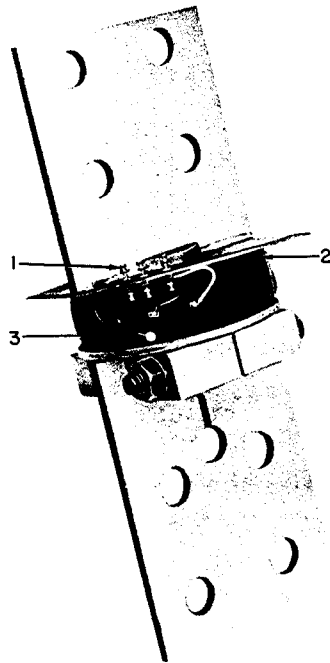

Fig. 38. (7612-6-2) Ground Sensor Coil (Remotely Located)
In addition to the phase overcurrent protection, a ground fault sensing feature may be provided. The Ground Sensing Device works on the principle that the instantaneous value of current flowing in the three conductors (or; in four conductors on four wire systems) must add to zero unless ground current is flowing. Therefore, if the electrical system is a four wire wye system with the neutral grounded at the transformer, the fourth sensing coil Fig. 38 must be included on the neutral conductor with its secondary combined with the secondaries of the three phase sensors which are mounted on the breaker. On Draw-out breakers the output of the external neutral sensor must enter the breaker by a control disconnect which is mounted low and on the centerline on the back of the breaker. Refer to Fig. (37) for Power Sensor Cabling Diagram.